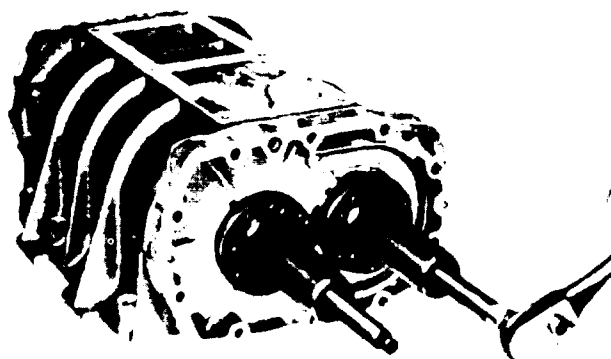

Figure 11D-7. Removing Blower End Plate
- D. Turn the two puller screws uniformly clockwise and withdraw the end plate and bearings from the blower housing and rotors as shown in Figure 11D-7.